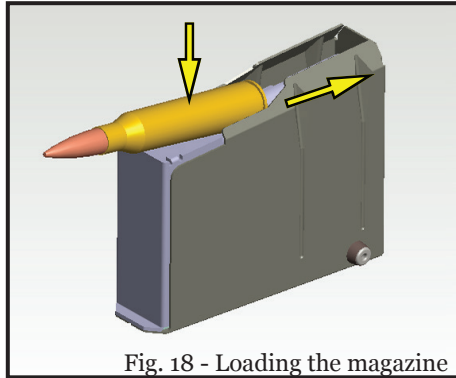

Fig. 18 - Loading the magazine
1. Press the cartridge against front part of the magazine so that the case head seats under the retaining lips of the magazine. (Fig. 18)
① NOTICE